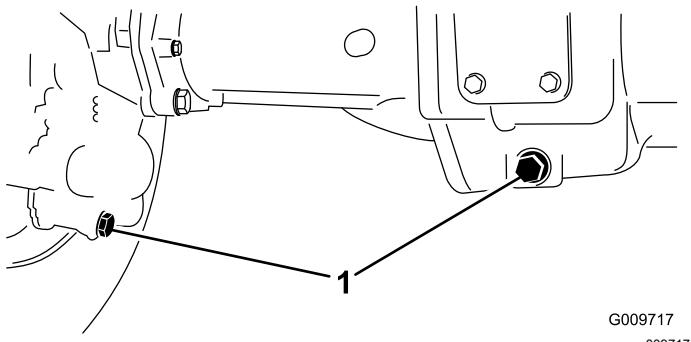

Figure 66
2. Clean the area around the 3 drain plugs—1 on each end and 1 in the center (Figure 66).